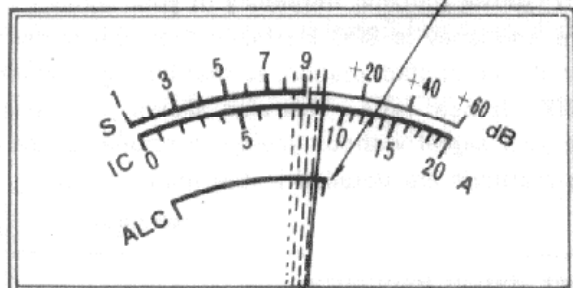

Fig. 4-5 ALC Adjustment
4.2.2. MIC GAIN CONTROL (Fig. 4-5)